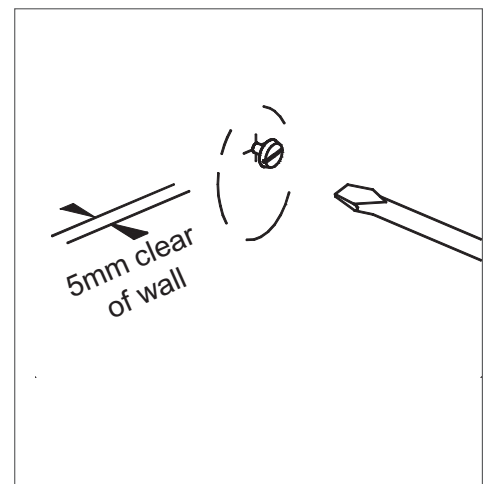

Fig 2.0
- Leave a gap of 5mm between the wall and the head of the screws, see Fig 2.0